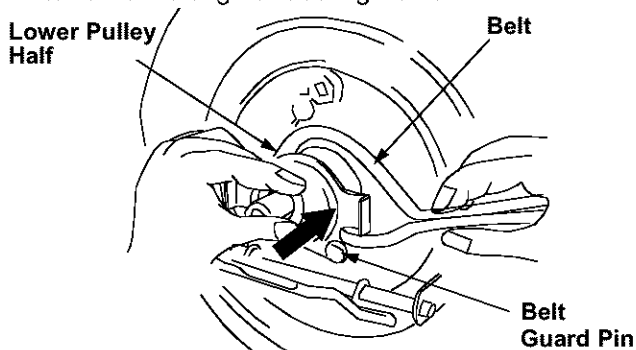

Figure 19
- Pinch belt together so that it is not in the pulley groove, and the lower pulley can be pushed towards the engine. See Figure 19.